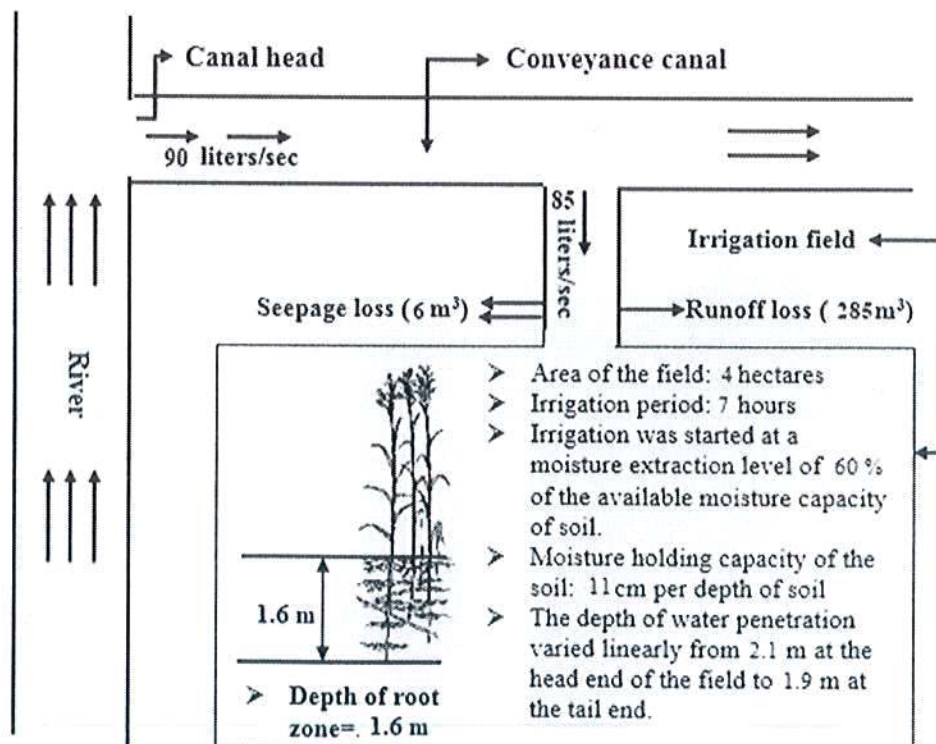

Figure 3
b) Through analyzing the data and information provided in **figure 3**, find out the following: 12